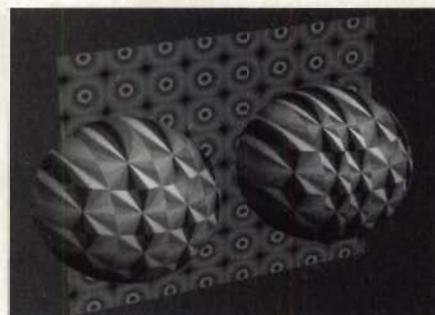
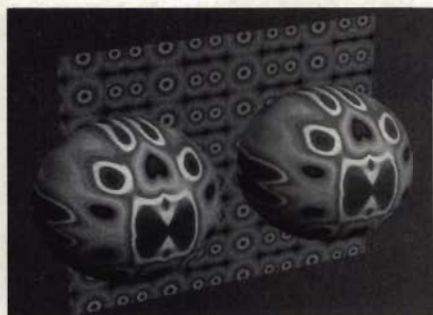

Fig. 9
Fig. 10
sphere uses Helix (M) (you can see the mirroring in the sphere's back half). In Figure 4, the plane uses Tiles Polygons, the left sphere uses Tiles Polygons (M), and the right sphere uses Tiles Polygons (H). In Figure 5, the plane uses Tiles Polygons (H)(M), the left sphere uses Tiles Rectangles, and the right sphere uses Tiles Rectangles (H). In Figure 6, the plane uses Noise Bounded, the left sphere uses Noise Open, and the right sphere uses Noise Closed. In Figure 7, the plane uses Zigzag, the left sphere uses Tiles Burst, and the right sphere uses Tiles Burst (H). In Figure 8, the plane uses Waves, the left sphere uses Tiles Circles, and the right sphere uses Tiles Circles (H). In Figure 9, the plane uses Tiles Circles, the left sphere uses Tiles Burst, and the right sphere uses Tiles Burst (H). In Figure 10, the plane uses Tiles Circles (H), the left sphere uses Tiles Closed Noise, and the right sphere uses Tiles Closed Noise (H).